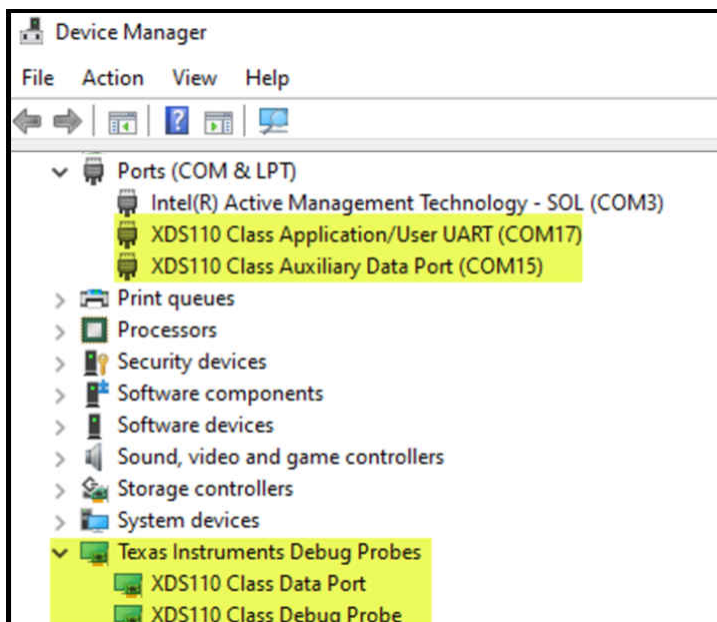

Figure 5-1. Windows 10™ Device Manager Showing Successful Detection of XDS110 Debug Probe
5. **Present in Device Manger:** For the JTAG debug probe to communicate to the PC, the driver files need to be installed. This typically occurs co-incident to the installation of the Code Composer Studio (CCS). To verify that the drivers are successfully installed, connect the PC to the JTAG debug probe and power up. Then go to Control Panel → Device Manager (Figure 5-1) and locate the associated debug probe.